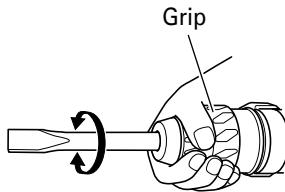

Fig. 8
- Turn the grip as illustrated in Fig. 8 and fix the tool to the desired working direction.